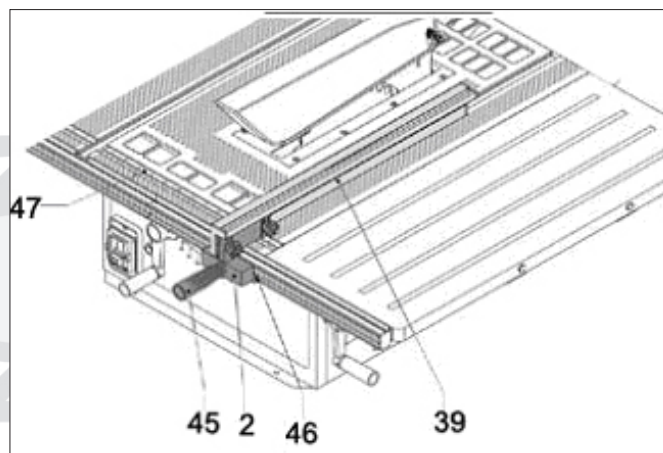

Figure 12
Push the handle into the cross rail at the end of the saw and secure the parallel guide by turning the handle (2) as shown in figure 12.